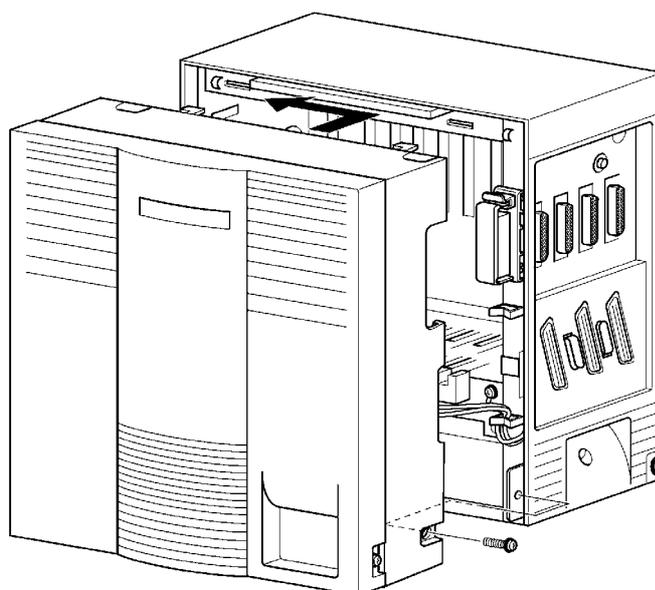

Figure 4-8 Attaching the Front Cover and the Front Cover Extender to the KSU
4. Attach the front cover and the front cover extender to the KSU by sliding the hooks (located on the top of the front extender cover) into the slots and fasten using the provided screw. Refer to *Figure 4-8 Attaching the Front Cover and the Front Cover Extender to the KSU*.